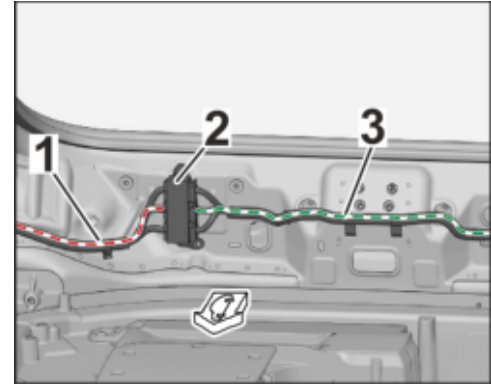

Figure 11
2.1.3 Rear cross-over connection point area ⇒ *Figure 11*
- Route branch for left rear light/tail light in tailgate to the rear cross-over connection point. ⇒ *Figure 11*